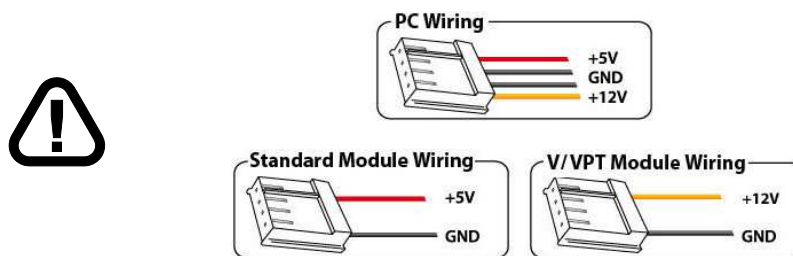

Figure 11: PC vs Matrix Orbital Display Module Wiring
- First, you will want to make sure that you are using the correct power connector. Standard floppy drive power cables from your PC power supply may fit on the Power/Data Connector however they do not have the correct pin out as can be seen in *figure 11 on page 6*. Matrix Orbital supplies power cable adapters for connecting to a PC, which can be found in the *Accessories Section on page 2*.